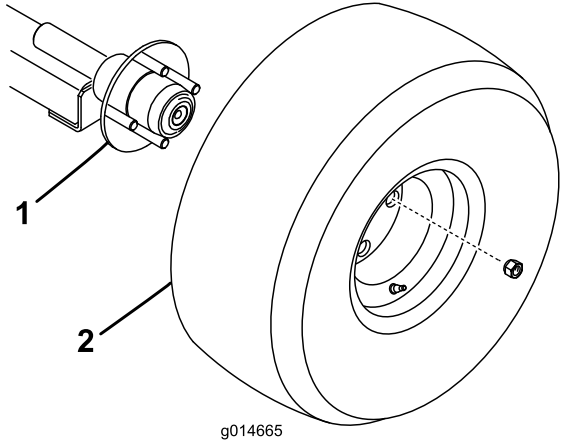

Figure 5
1. Mount a wheel assembly to each axle hub with 4 lug nuts (Figure 5). Tighten the nuts to 80 ft-lb (108 N·m).